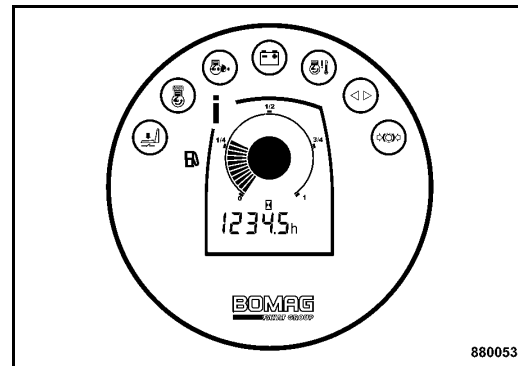

Fig. 120
- Check the fuel level on fuel gauge (i) (Fig. 120) in the instrument cluster.